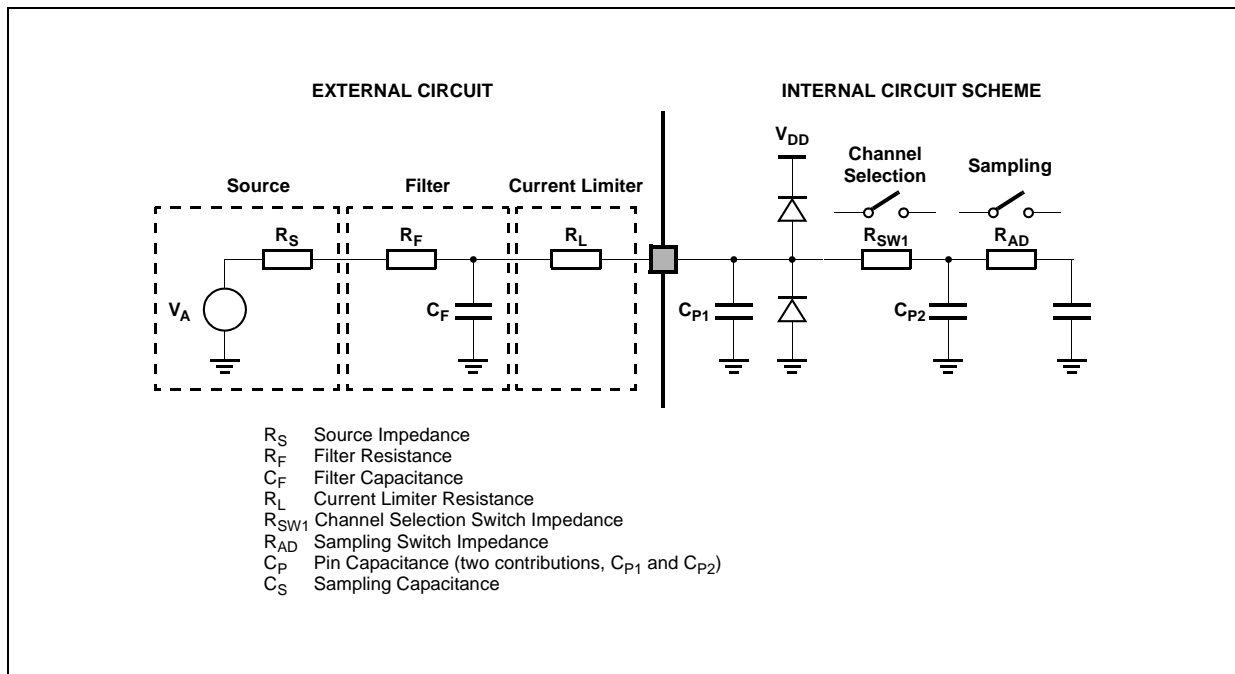

Figure 10. Input equivalent circuit
A second aspect involving the capacitance network shall be considered. Assuming the three capacitances C_F , C_{P1} and C_{P2} are initially charged at the source voltage V_A (refer to the equivalent circuit reported in Figure 10): A charge sharing phenomenon is installed when the sampling phase is started (A/D switch close).
- ⁶ See Figure 10.